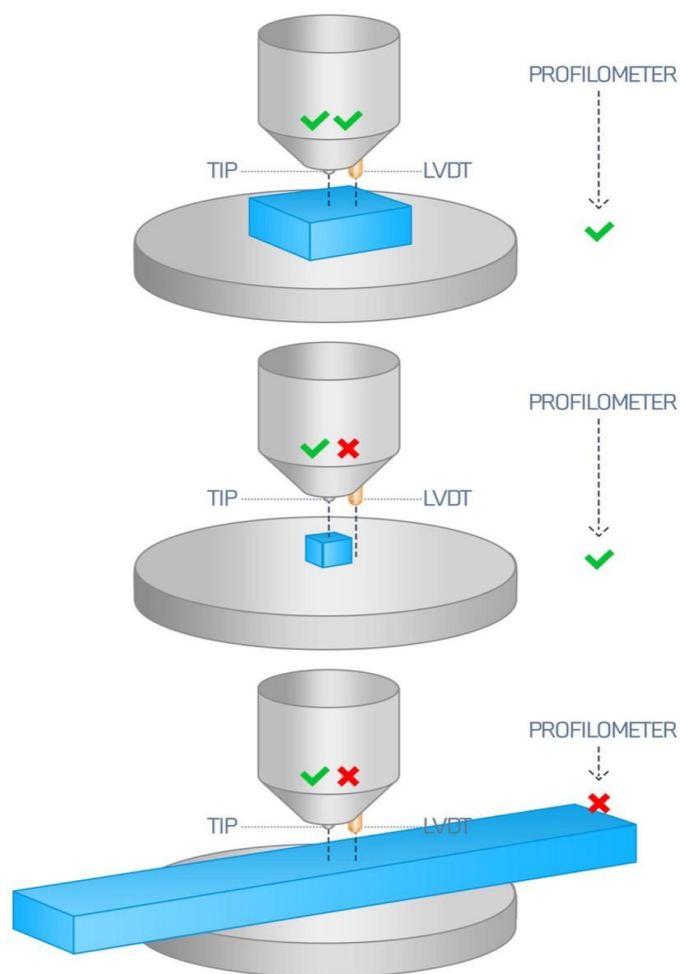

Figure 3.2 Sample placement guide
4. For large samples, care must be taken to not position the sample such that any part of it is close to the profilometer, which is parked well to the right of the platen (Figure 3.2).
5. The sample must be positioned such that the LVDT (the axis of which is 5 mm to the right of the indenter axis) will touch the sample surface when the crosshead is lowered (Figure 3.2). If the LVDT misses the sample, it could result in damage to the sample surface. For small samples, it may be easier to manually lower the crosshead close to the sample to ensure this criterion is met.
Place the profilometer calibration sample (provided by PLX) on the platen and position it as shown in Figure 3.2. The indent should be located approximately on the indentation axis. If this calibration sample is lost or damaged, please contact Plastometrex at support@plastometrex.com.